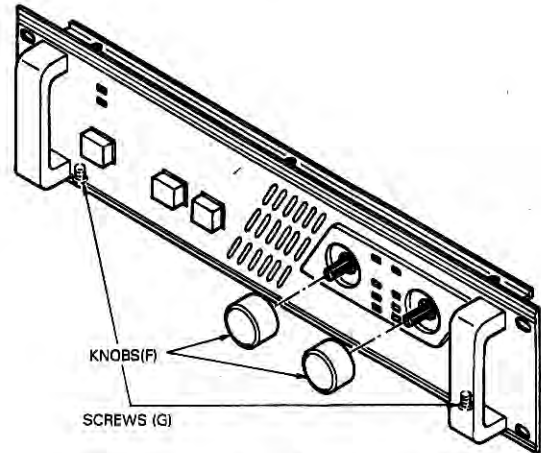

Fig. 2
- (a) Remove 3 screws (C). (Fig.2)
- (b) Remove 4 screws (D). (Fig.2)
- (c) Remove 6 screws (E). (Fig.2)